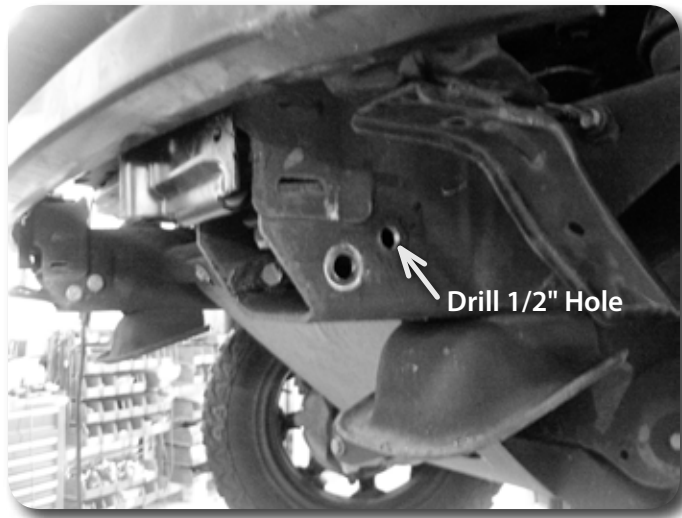

Figure 17
39. Flip the front tow hooks upside down. Align the tow hook on outside driver side frame rail to mark new hole center to be drilled. Orientate the tow hook so that is flat and mark the frame to be drilled. Drill 1/2" holes on frame sides with only 1 mounting hole as shown. This will allow the tow hooks to be flipped and reused. **Figure 17**